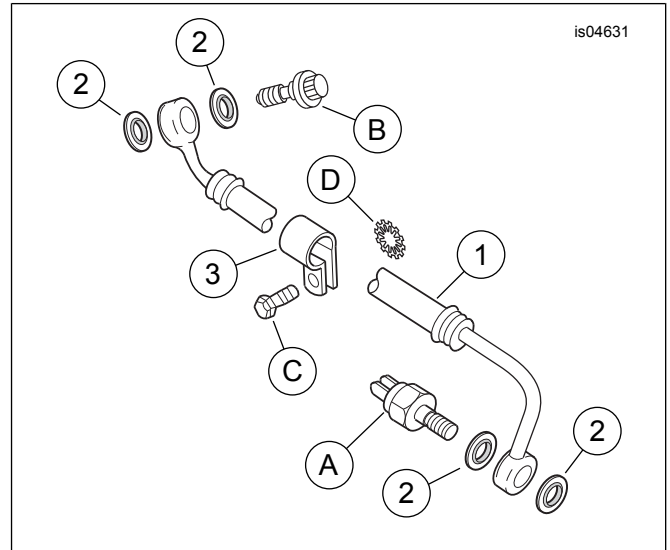

Figure 2. Service Parts, Braided Rear Brake Line Kit
See Figure 2 and Table 1.
1. See Figure 2. Run the **new** braided brake line (1) along the same route as the original brake line.
- a. Lubricate the **new** brake line gaskets (steel/rubber washers) (2) from the kit with D.O.T. 4 Hydraulic Brake Fluid.
- b. Note that the banjo bolt with the integral brake light switch installs at the master cylinder (forward) end. Use the O.E. banjo bolts (A) and (B), and new brake line gaskets (one gasket on each side of brake line banjo fitting) to fasten the braided rear brake line at the rear brake master cylinder and the rear brake caliper.